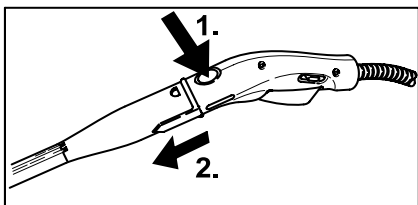

Figure 6
- ➔ To detach the accessory parts, press the unlocking button (C2 or G2), and pull the items apart (see Fig. 6).